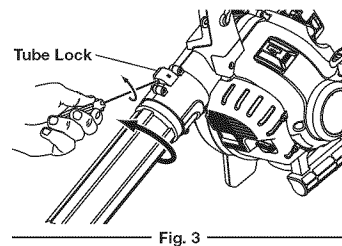

Fig. 3
2. Insert a flathead screwdriver into the tube lock. Twist the screwdriver counterclockwise 1/4 turn and hold (Fig. 3).
3. Grasp the upper blower tube and twist it counterclockwise (Fig. 3).